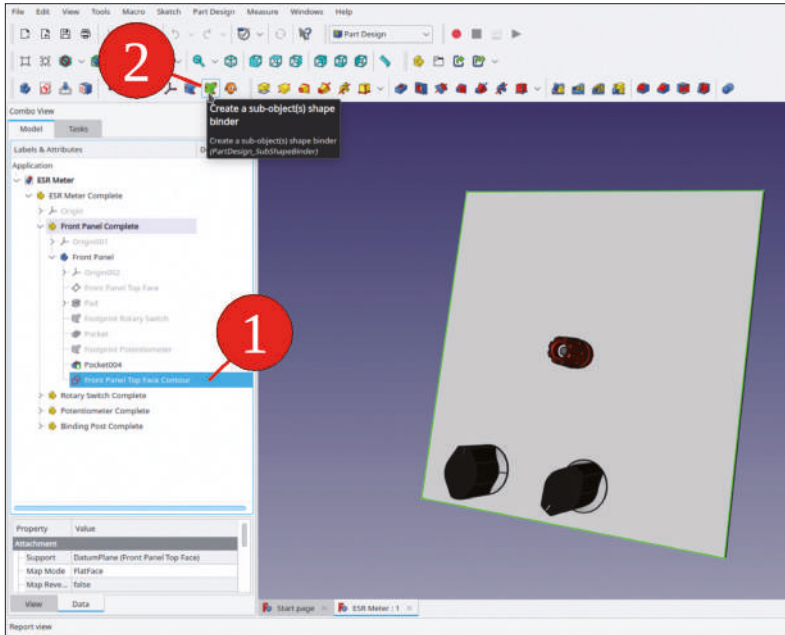

Figure 7-26
10. In the deactivated body, mark the sketch 'Front Panel Top Face Contour'. Then, click the green 'Create a sub object(s) shape binder' tool button (Figure 7-26). Hide the sketch 'Front Panel Top Face Contour'.